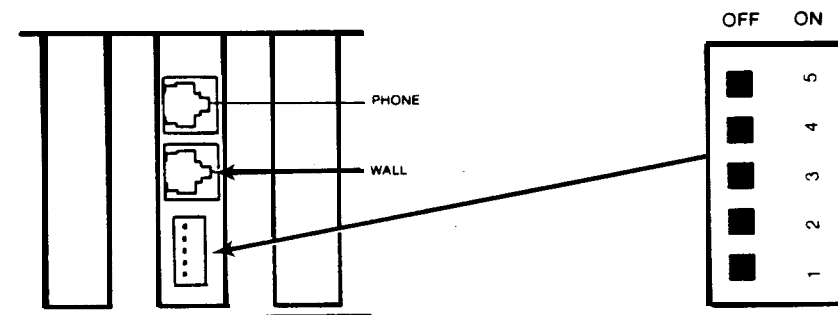

Figure 2.
6. Ground yourself to the testers chassis and remove the Modem PCB from the static bag and check the DIP switch settings of the PCB, they should all be off see Figure 2.
9. Install the Modem Cable assy. (6004-0536) to the Modem PCB WALL RJ11 connector shown in Figure 2.